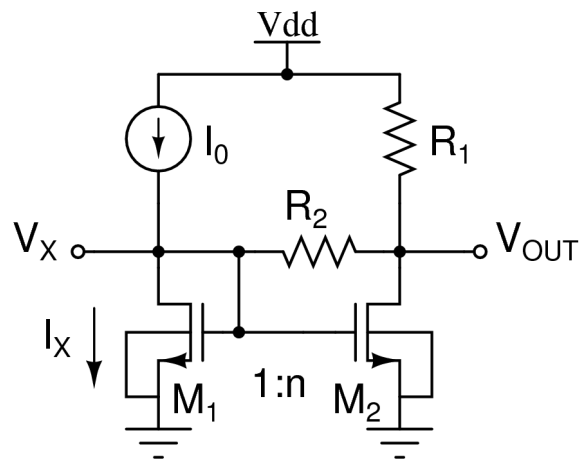

Figure 4
3. Consider the circuit shown in Figure 4. Assume the MOSFETs follow the long-channel device equation $I_D = \beta(V_{GS} - V_T)^2$. You are given the following parameters: $I_0 = 1mA$; $V_{DD} = 5V$; $\beta_2 = 5mA/V^2$; $V_{T1,2} = 1V$; $R_1 = 1k\Omega$; $R_2 = 5k\Omega$; $n=3$. Determine the values of V_{OUT} , V_X and I_X .